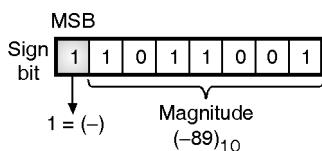

Fig. 3.3.1(b) : A negative binary number 8-bit signed binary numbers
- The MSB of a binary number is used to represent the sign and the remaining bits are used for representing the magnitude. 8-bit signed binary numbers are shown in Fig. 3.3.1.
(C-6110) Fig. 3.3.1(a) : A positive binary number
- The numbers shown in Fig. 3.3.1 contain a sign bit followed by magnitude bits.